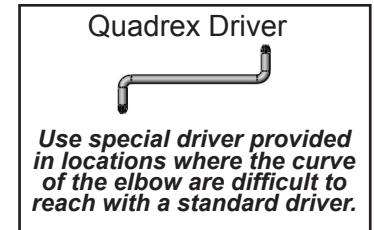

Fig. 26.1
**A:** Fit one of the Elbow Assemblies to the Flange Assembly by lining up the arrows on each assembly. Attach Elbow Assembly to Flange Assembly using 6 (PB1) 1/4 x 3/4" Pan Bolts and Square Lock Nut. (fig. 26.1, 26.2 and 26.3)